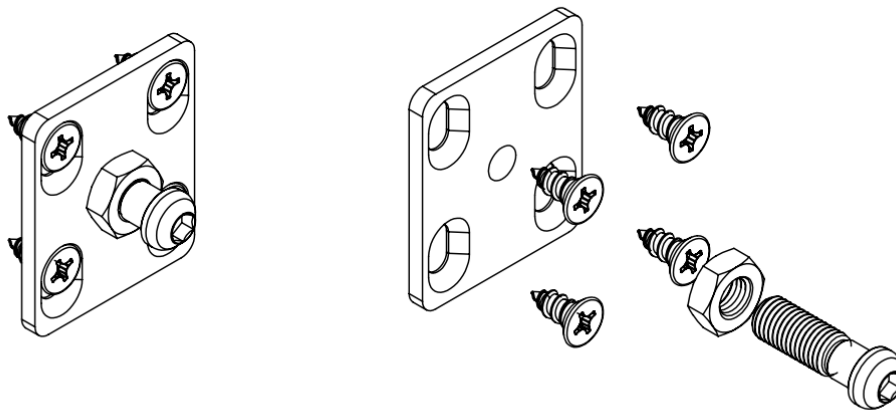

Figure 4
**Note: If a bi-parting OXXO door is being installed, you will have one (1) active lead panel and one (1) inactive lead panel. Locate the active lead panel and install in accordance with the XO or OX configuration you are installing.**
6. Drill four (4) 3/16" clearance holes at the marked locations of the strike plate. Anchor the lock strike to the jamb with #10 x 2-1/2" PH Flat Head screws. Shim as needed to avoid bowing the frame. For Bi-part conditions use #10 x 1/2" PH Flat Head Screws (See Figure 4).